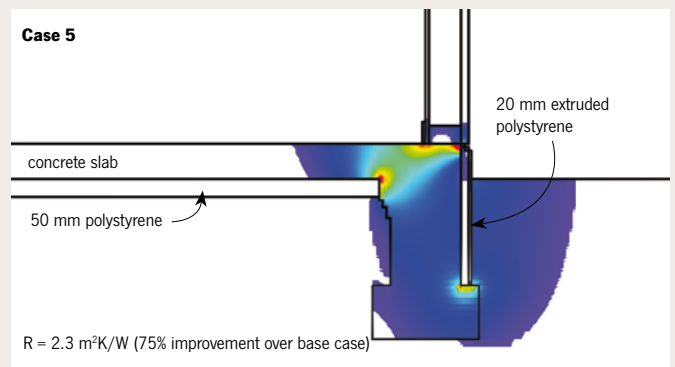

Figure 5: 50 mm polystyrene plus 20 mm extruded polystyrene to exterior face of footing.
- additional insulation applied, and protected, to the exterior face of the footing (see Figure 5).